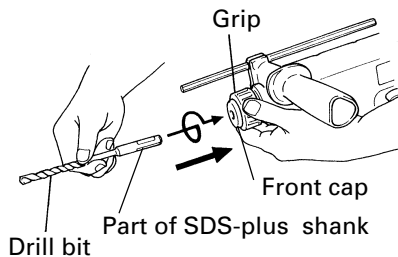
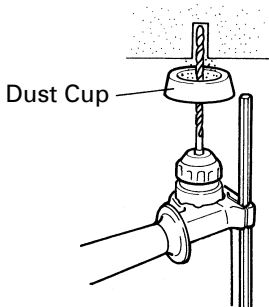

Fig. 8
Fig. 9
- (1) Turn the grip of the side handle to loosen it and push it in until it comes in contact with the housing.
- (2) Adjust the side handle to the angle that allows the easiest use, then turn the side handle's grip firmly to lock it place.
3. Mounting the drill bit (Fig. 8)
- (1) To attach a drill bit (SDS-plus shank), fully pull the grip in the direction of the arrow as shown in Fig. 8 and insert the drill bit as far as it will go while manually turning.
- (2) By releasing the grip, the drill bit will be secured.
- (3) To remove the drill bit, fully pull the grip in the direction of the arrow and pull out the drill bit.
4. Installation of dust cup or dust collector (B) (Optional accessories) (Fig. 9, Fig. 10)
Use the dust cup by attaching to the drill bit as shown in Fig. 9.